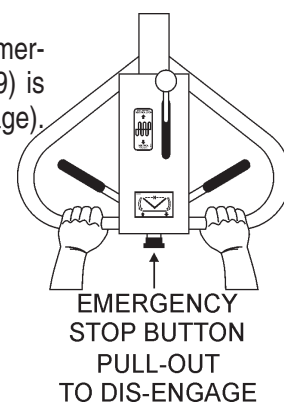

Figure 19. Emergency Stop Button
1. **ALWAYS** make sure that the emergency stop button (Figure 19) is pulled all the way out (disengage).